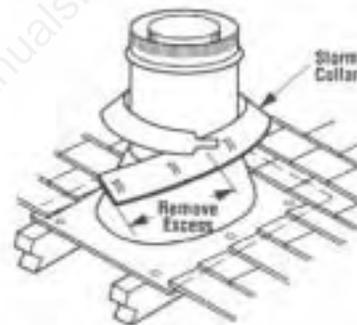

Figure 22
J. Install the storm collar, supplied with the flashing, over the vent/flashing joint. Wrap the storm collar around the vent noting which locking groove closely aligns with the tab (Figure 22). Pencil mark excess material, unwrap and trim excess with shears. Reposition collar, insert tab through both slots; pull tab so that collar is tight around vent. Slide collar down until it meets top of the flashing. Bend tab back over slot. Apply noncombustible caulking or mastic around circumference of the joint and the tab slot area to provide a water tight seal.